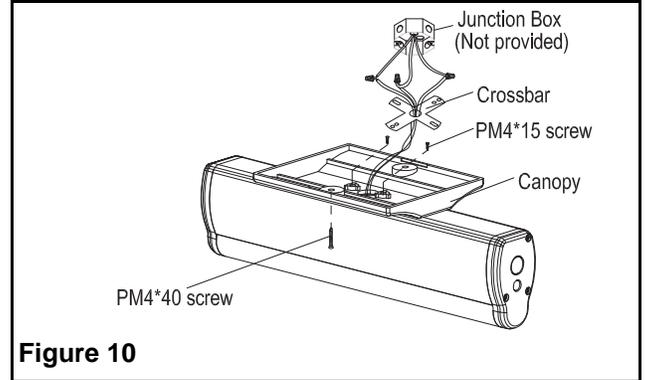

Figure 10
15. This unit can be mounted on any flat surface. The Exit panel can be rotated in any angle from 0° to 180° (see figure 10).
4. Use 2 screws PM4-40 (supplied) to tighten canopy to the crossbar (see figure 10).